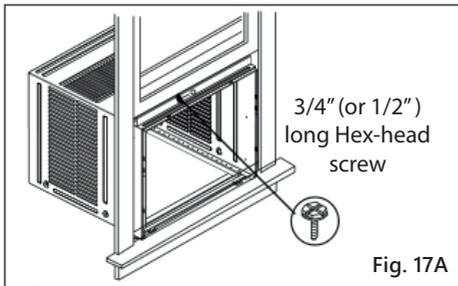

Fig. 17A
- Attach the top rail to window frame: Use a 3/32" drill bit to drill one hole through the hole in the middle the top rail into the window frame, and drive one 3/4" (or 1/2") HEX-HEAD locking screw through hole in the middle the top rail into the window frame as shown (Fig. 17A).